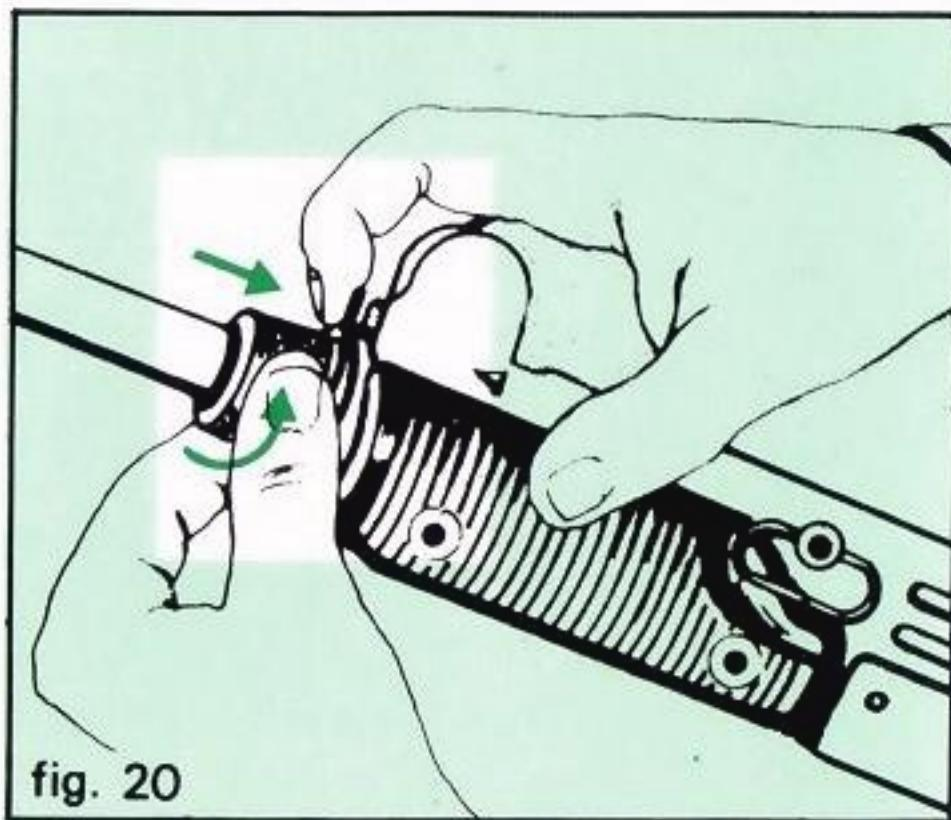

fig. 20
1. Depress barrel retaining nut catch. (fig. 20).